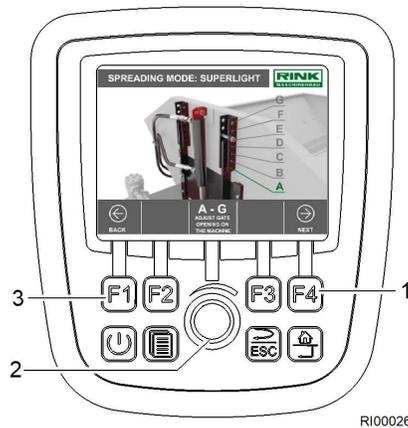

Fig. 43 Set spreader gate opening
1. Turn the rotary control (Fig. 43/2) and set the desired spreader gate opening for spreading operation.
3. Press the F4 button (Fig. 43/1). The control menu for spreading operation is called up.
4. Press the F1 button (Fig. 43/3). The previous control menu is called up.